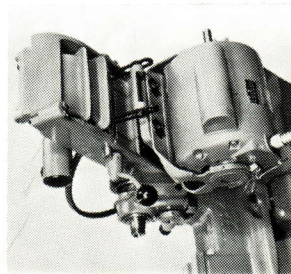

Fig. 9
- i** Still looking on the rear of the machine, fit the motor base clamp pin (QR13 and QR14), entering it from the right hand side, first through one of the tie bars, then through the motor base, finally through the second tie bar. Fit the washer and nut on the left hand end (Fig. 9).